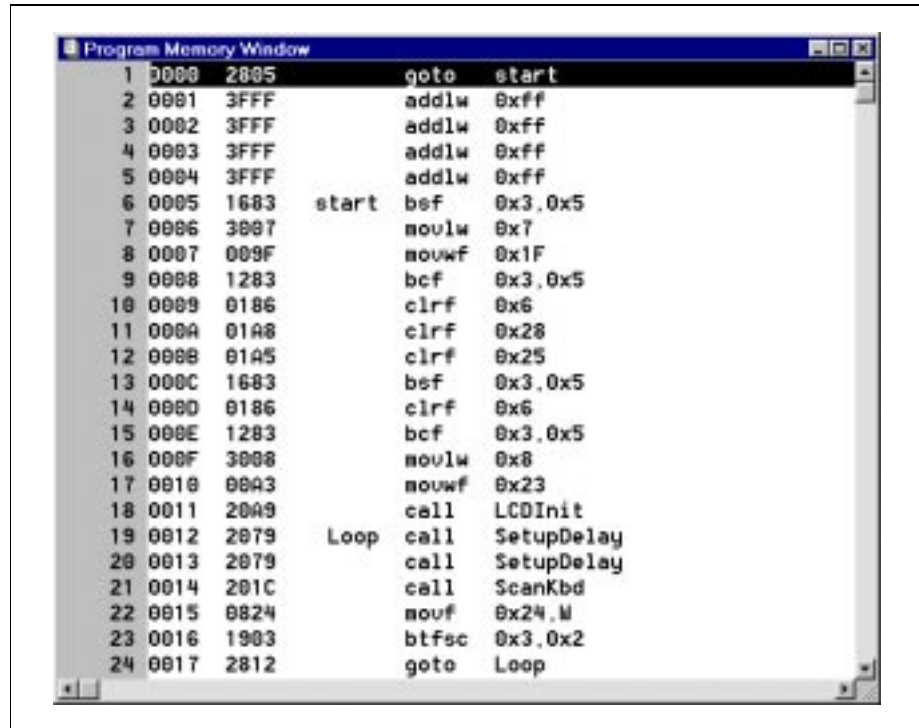

Figure 5.7: Program Memory Window – Machine Code Display
- **Machine Code Display** – This displays the disassembled hex code with no symbolic information (Figure 5.7).